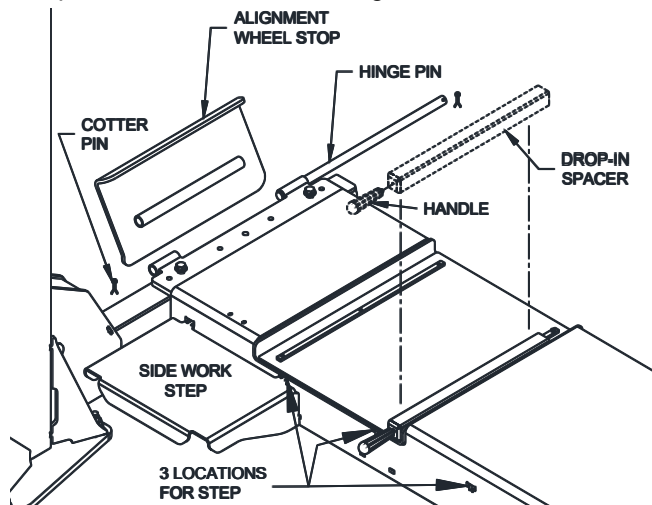

Fig 27 – Alignment Wheel Stop & Turn Plate Installation
- 64) If lift is an alignment lift, use the hinge pin and cotter pins to install the wheel stop. See **Fig 27**
- 79) Attach a Work Step to each runway. (The Work Step may be located in three different positions on each runway.) See **Fig 27**.
- 80) Use the hinge pin and cotter pins to install the alignment wheel stop. See **Fig 27**.